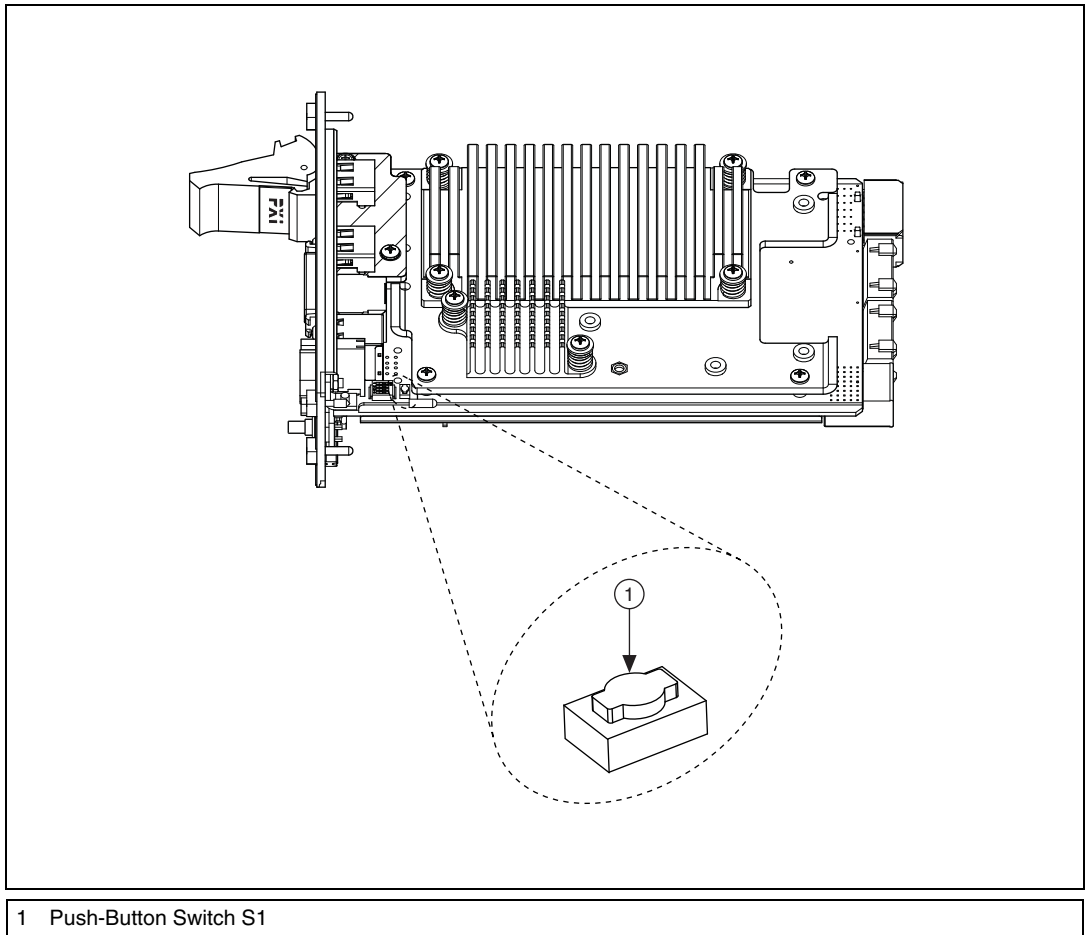

Figure 5-1. Clearing the CMOS Contents
3. Press and hold down the pushbutton switch SW1 for 2-3 seconds. The SW1 switch location is shown in Figure 5-1.